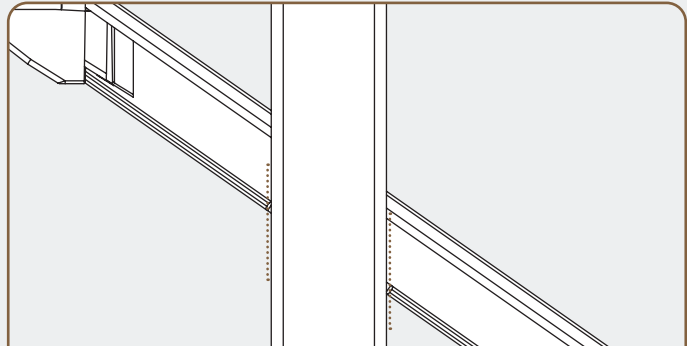

Fig. 29-1 - Align Baluster with top and bottom corners in baluster opening
- Align baluster with top and bottom corners of baluster opening in spacer (Fig. 29-1)